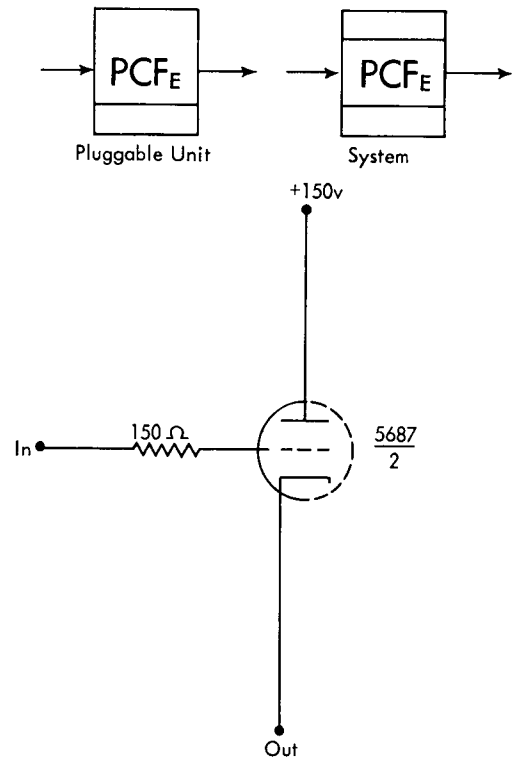

FIGURE B67. POWER CATHODE FOLLOWER (PCF_E)
The power cathode follower PCF_E (Figure B67) is a delay line driver and can be found driving the delay line on the input to the clock. The load resistor of the 2PCF_E is equal to the characteristic impedance of the delay line and it terminates the input of the line.
The PCF_F schematic is identical to the PCF_E (Figure B67) with the possible exception that the plate voltage may be +220 volts. This is indicated by an X in the upper right corner of the pluggable unit block. A decoupling circuit is used consisting of: (1) a 47-ohm resistor between the plate and +220 volts, and (2) a .05 ufd capacitor from the plate to ground.